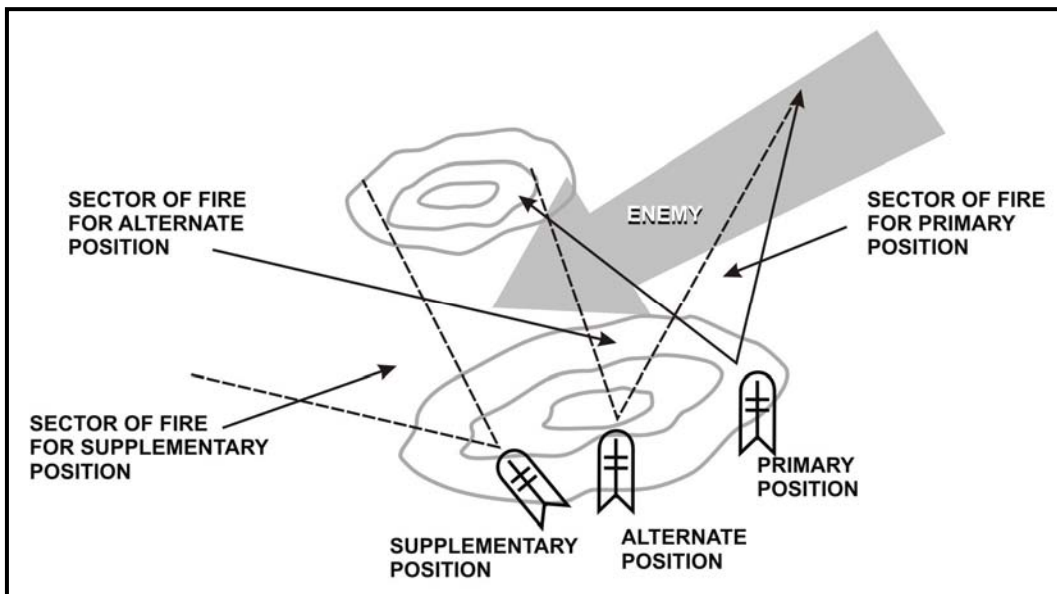

Figure 5-3. Primary, alternate, and supplementary firing positions.
c. **Positions.** The three types of firing positions are primary, alternate, and supplementary (Figure 5-3).